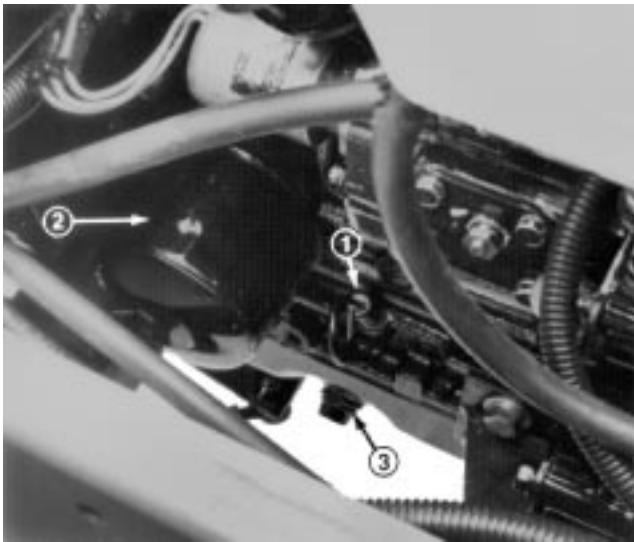
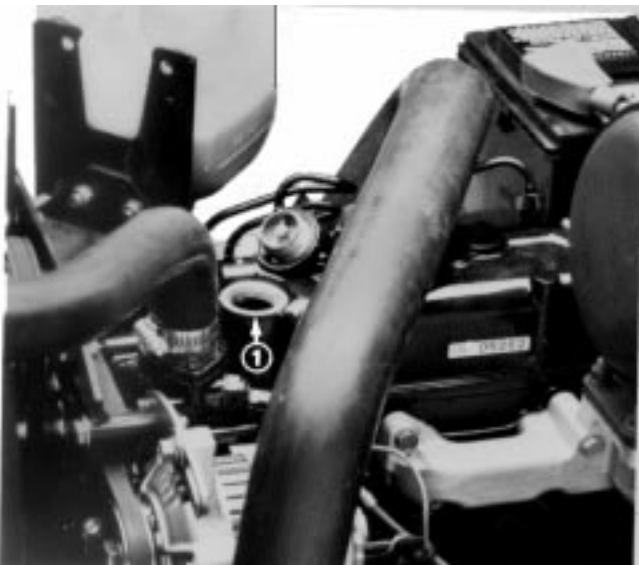

Figure 11
Figure 12
3. Remove dipstick and wipe it with a clean rag. Insert dipstick into the tube and make sure it is seated fully. Remove dipstick and check level of oil (Fig. 11). If oil level is low, add enough oil to raise level to FULL mark on dipstick. Do not overfill (Fig. 12).